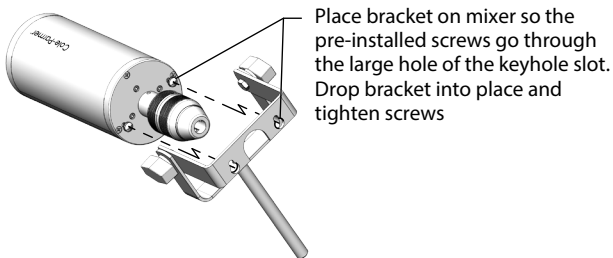

Figure 5: Installing Adjustable Tilt Mounting Bracket
3. Tighten the screws to secure the mounting assembly in the installed position, as shown in Figure 5.